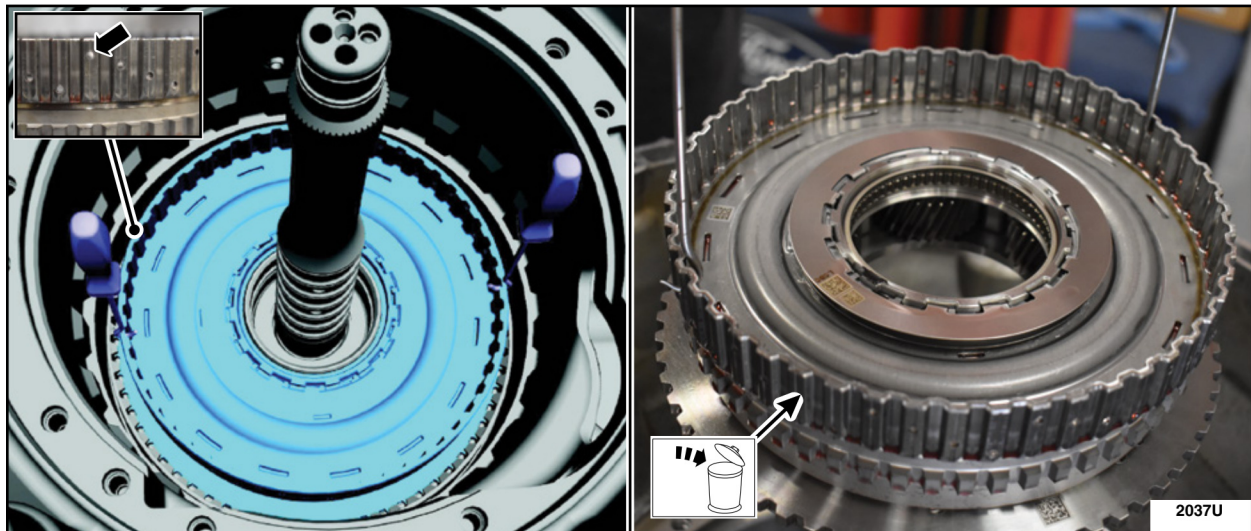

FIGURE 13
16. Using two pick hooks inserted into holes on the outside gear, remove and discard the number one planetary carrier. See Figure 13.